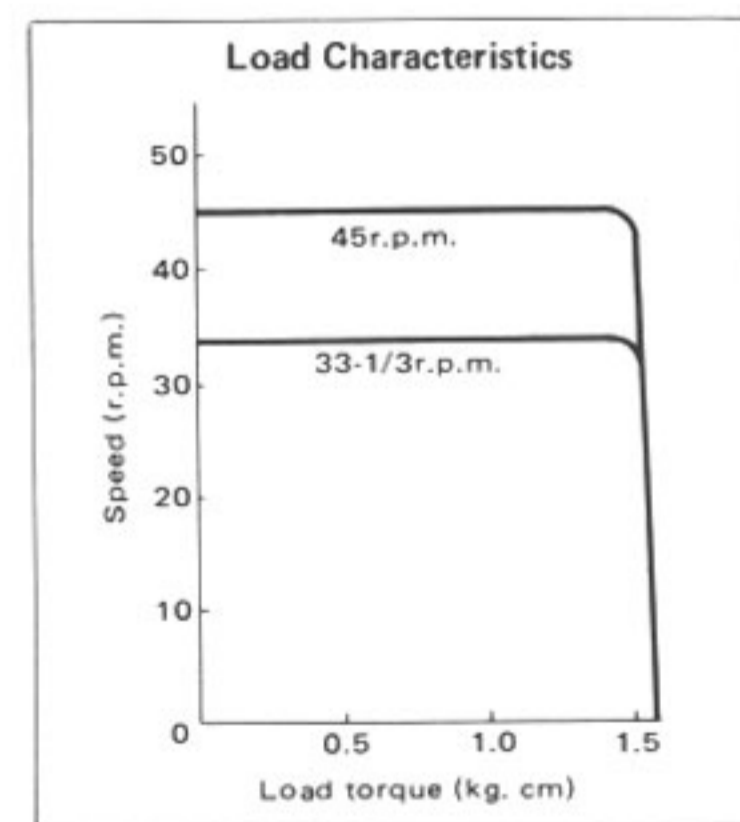

Fig. 2
**Superior load characteristic of 0 rotational deviation even at a stylus pressure of 300 g. (Fig. 2).**